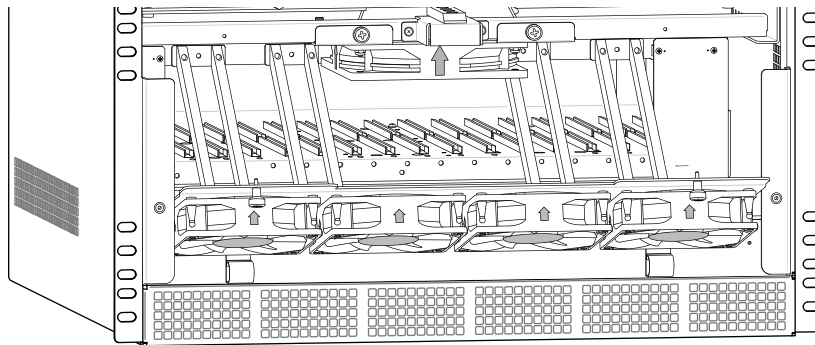

FIG. 49 Intake fan assembly in open position
4. Lower the fan assembly into its open position (see FIG. 49).